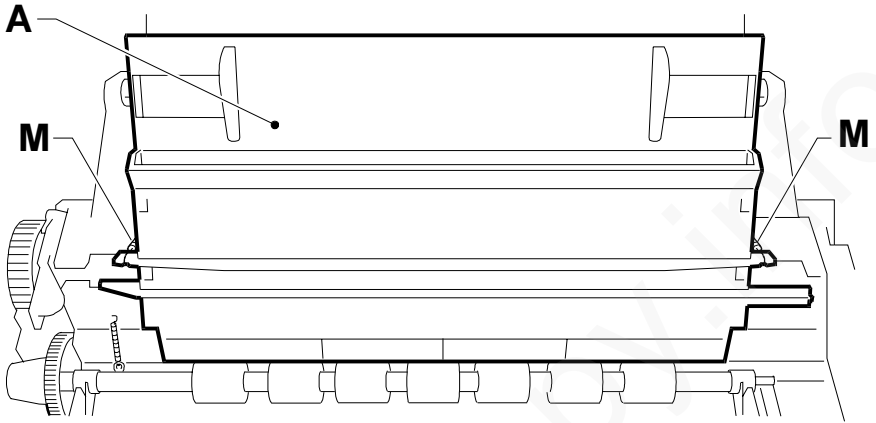

Fig. 7-26
- 3) Release the two springs **M** and remove the automatic switch **A** flexing the two sides of the structure and taking care not to rip the wires from the sensor (Fig. 7-26):